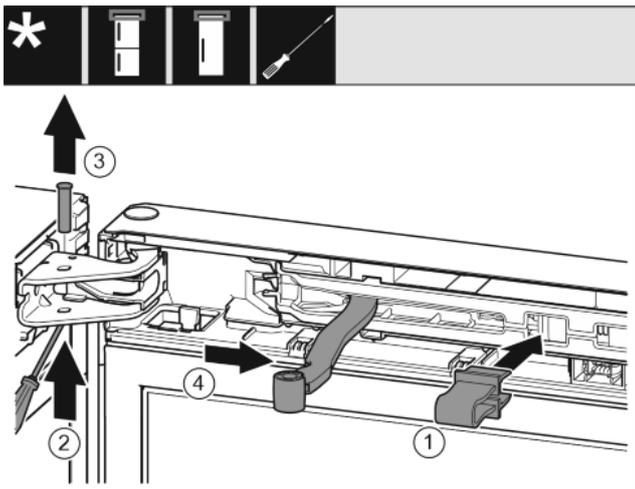

Fig. 7
- ▶ Engage the locking device in the opening. Fig. 7 (1)
- ▶ Push out the bolt with a screwdriver. Fig. 7 (2)
- ▶ Remove the bolt upwards. Fig. 7 (3)
- ▶ Turn the hinge in the direction of the door. Fig. 7 (4)